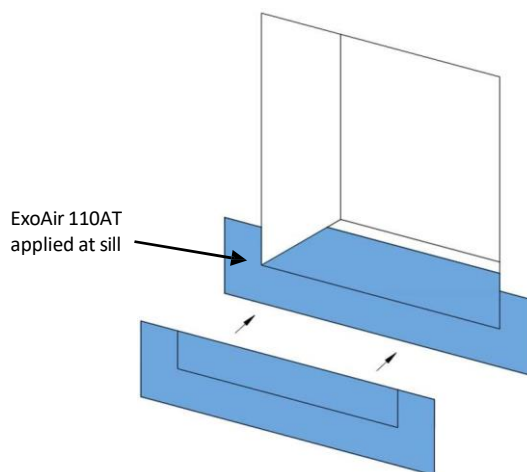

Fig. 14
- c. Install ExoAir 110AT onto the sill 3" minimum into the rough opening and onto exterior wall and extending 3" passed the rough opening on either side. – Figure 14.